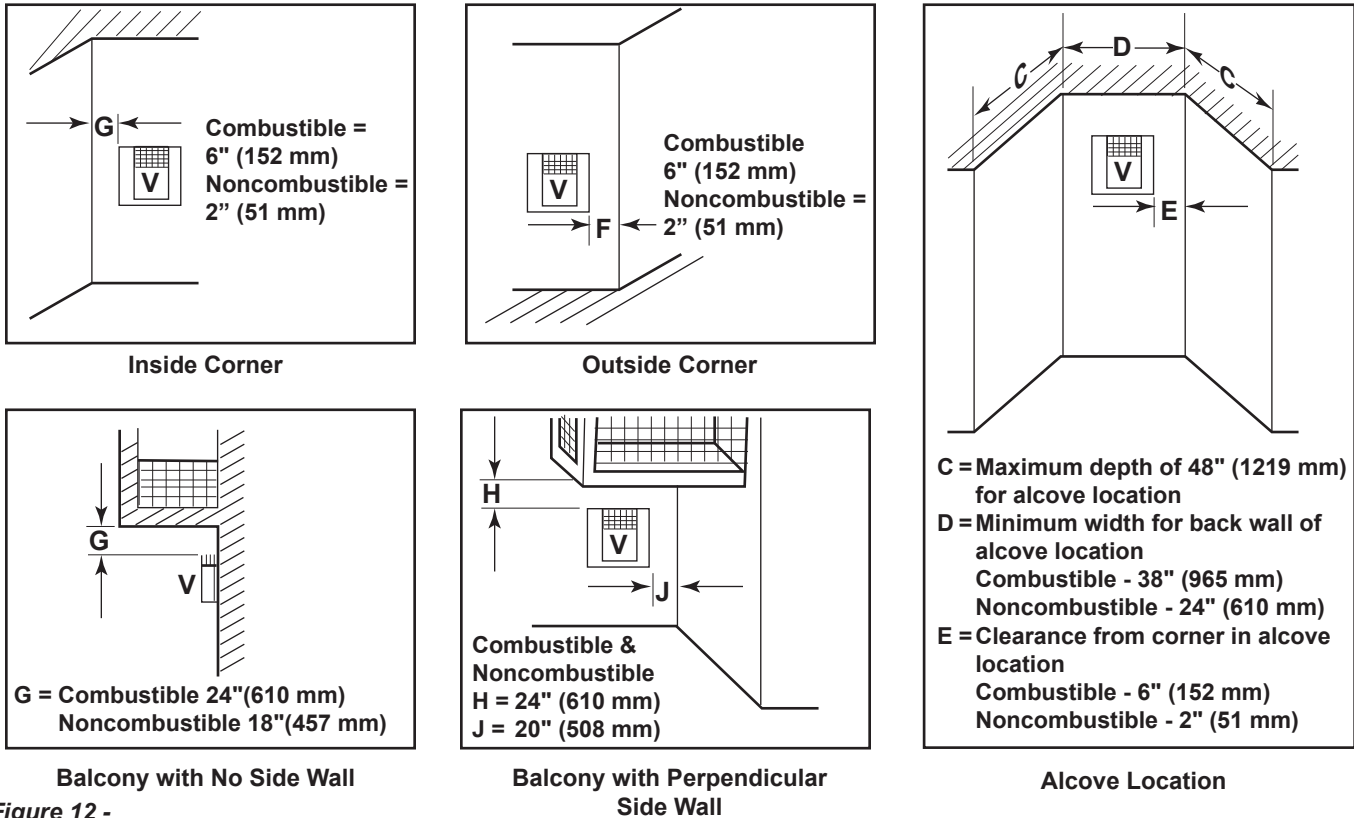

Figure 12 - Allowable Venting Chart
- D = Vertical clearance to ventilated soffit located above the terminal within a horizontal distance of two (2) feet (610 mm) from the centerline of the terminal [18" (457 mm) minimum].
- F = Clearance to an outside corner. *Page 16, Figure 12*
- G = Clearance to an inside corner. *Page 16, Figure 12*
- H = *Not to be installed above a gas meter/regulator assembly within three (3) feet (914 mm) horizontally from the centerline of the regulator.
- M = Clearance under veranda, porch, deck, or balcony. **Page 16, Figure 12.** [For Canada *12" (305 mm) minimum***].